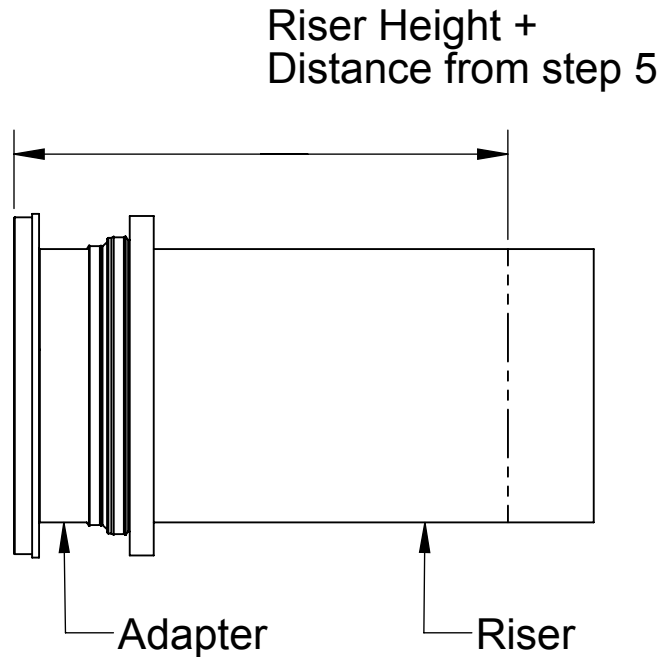

Figure 2
5. From the top of the adapter, measure your needed total riser height downward to the sidewall of the riser. Then, add 4". For example, if you need a 15-1/2" extension, you would measure down from the top of the adapter 19-1/2" (15-1/2" + 4" = 19-1/2"). See Figure 2.